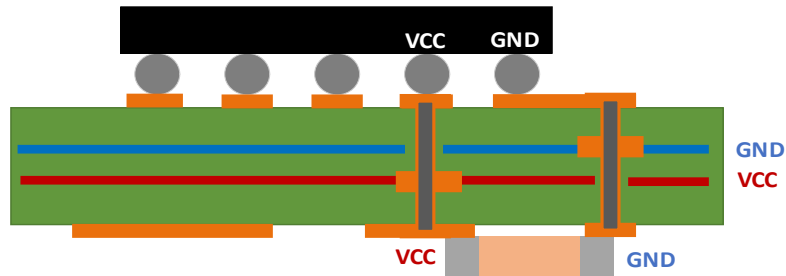

Figure 14. Placement of Decoupling Capacitors on a BGA Package — Multi-Layer Board
- Connect the terminals of the decoupling capacitor(s) (placed directly underneath the chip, on the bottom layer of the PCB), to the VCC and GND layers of the PCB using short traces, as depicted in Figure 14.
In a board with 4 or more layers, the VCC and GND planes are embedded on the inner layers of the board. In this case, place the decoupling capacitors directly under the package on the bottom side of the PCB. This requires the use of vias as shown in Figure 14. This drawing shows the placement of one of the three VCC/GND pairs on the BGA package.